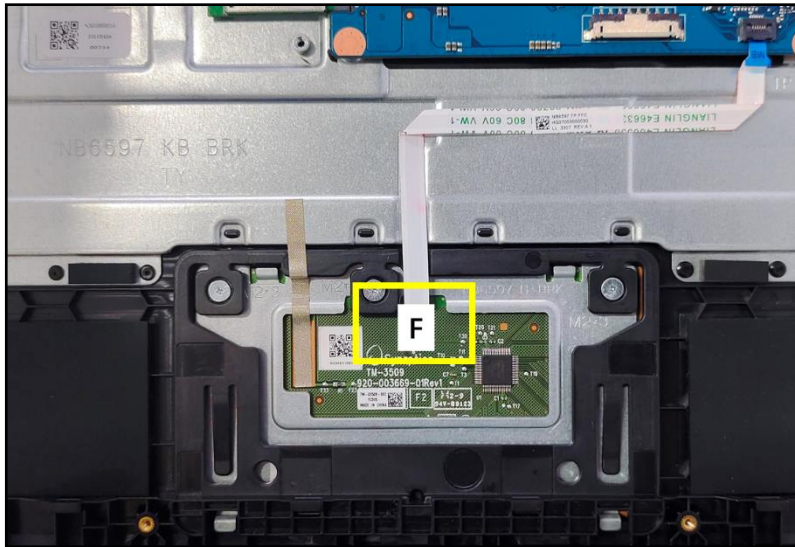

Figure 3-112. Replacing the Touchpad Module
6. Attach the adhesive tape (F) to secure the touchpad FFC connection (Figure 3-112).